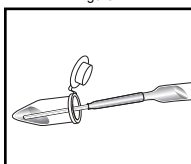

Figure 2
2. Fill the micro-test tube approximately halfway with the diluted sample prepared above (fig. 2).
4. Holding the VACUette almost horizontally, touch the tip to the contents of the micro-test tube (fig. 2).